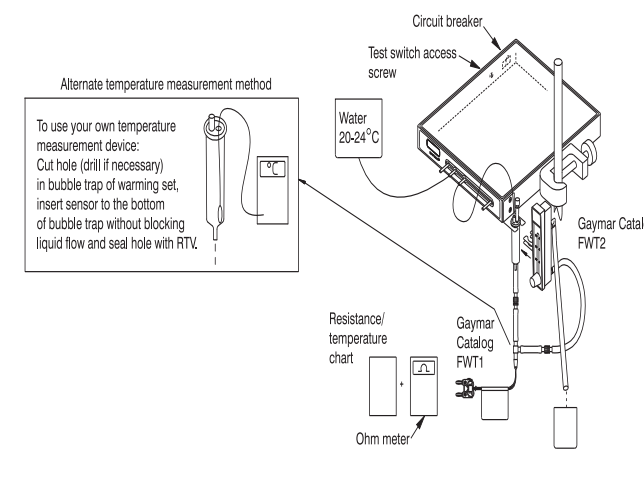
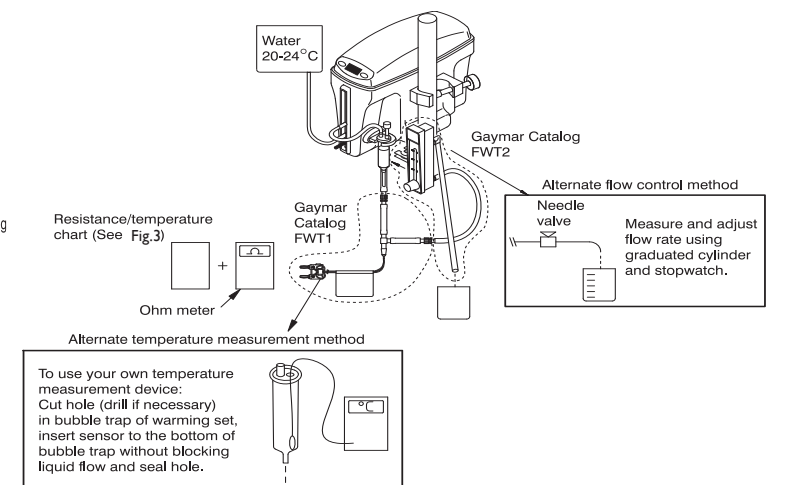

Figure 1—Test Setup (FW300 / 400 Series)
Figure 2—Test Setup (FW600 Series)
1. Connect test setup (see fig. 1, p. 1 for FW300/400 series and fig. 2, p. 1 for FW600 series.). Use a standard Blood/Fluid Warming Set (model D25340CE) with Gaymar FWTI Temperature Sensor connected to the output of the bubble trap.
6. Remove the test switch access screw (fig. 1). Using an electrically nonconductive tool, push and hold switch S2. This will force the heater on. The display temperature will rise.